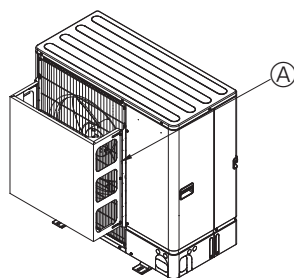

Fig. 4-22
- Install an optional air guide if the unit is installed in a location where strong winds from a typhoon, etc. may directly enter the air outlet. (Fig. 4-22)